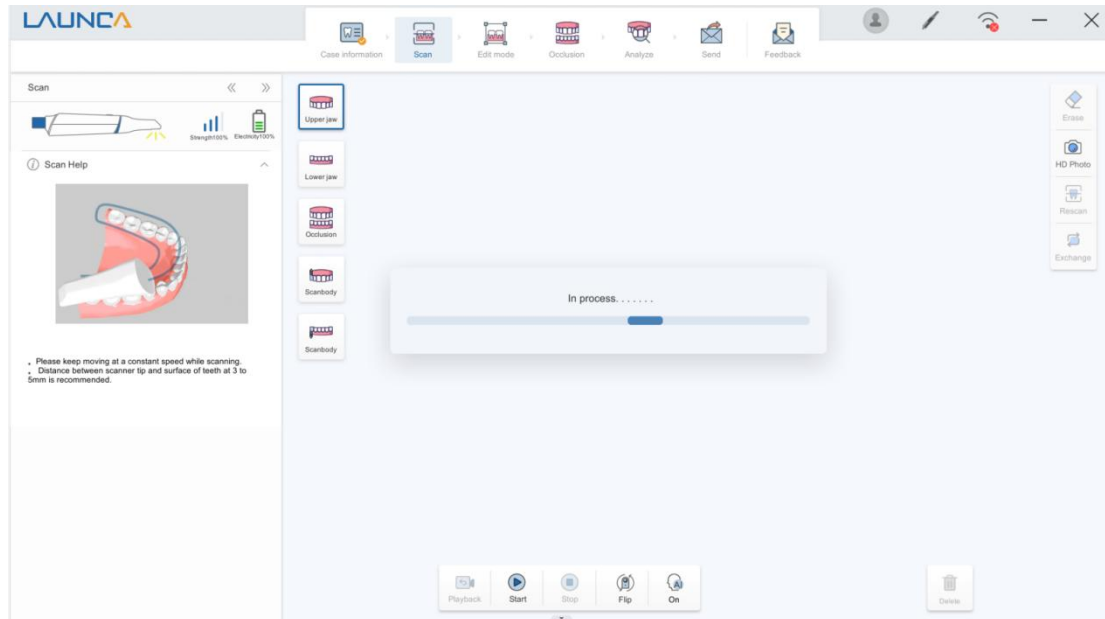
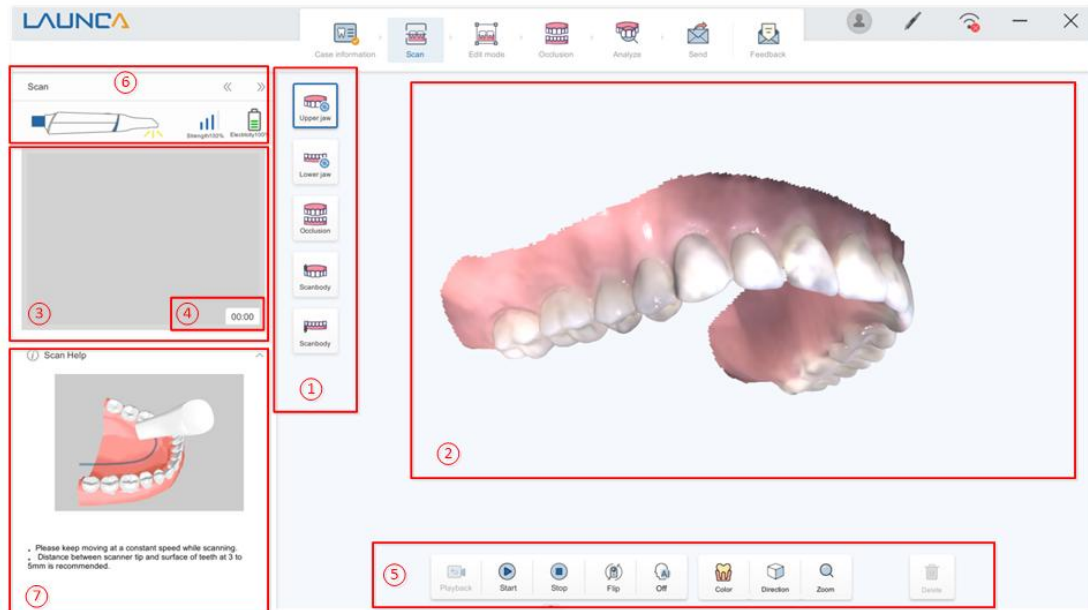

Fig. 4-7 The Scan window is Loading
Fig. 4-8-1
After confirming the case information, click "Scan" in the Scanning workflow to start the scan window. Fig. 4-7 shows that the scan window is loading. After the scan window starts, it will switch to the interface as shown in Fig. 4-8-1.
3	2D Image Window: This window is displayed in real time during scanning. When scanning does not start, the window is in grey rectangular shown in the area ③ in Fig. 4-8-1.
- 1) Take out the intraoral camera, select one part to scan from the scanning target bar (upper jaw, upper scanbody, lower jaw, lower scanbody, buccal). Press the "Start" button on the handpiece, the LED lights at the front of the camera will begin to flash. Place the camera into the patient's mouth. You can observe the mouth in real time from the 2D image window of the area ③ in Fig. 4-8-1.
- 2) Point the scanning window to the teeth to be scanned, and observe the teeth in the 2D image window in the area ③ of Fig. 4-8-1. Wait for the window border to turn yellow and keep the camera stable for two seconds, the scanning will start automatically, as shown in Fig. 4-11.
- Click the "Stop" button on the user interface (in the area ⑤ of Fig. 4-8-1) to finish the scanning.
- 6) Select another scan target for the next scanning. The steps are the same as in steps 2) - 6). Repeat steps from 2) to 6) and ensure the items in the scanning target bar are all toggled in green, as shown in area ① of Fig. 4-8-1. This indicates that the data of all parts has been scanned and post processed. Thus, the scanning process has been completed.